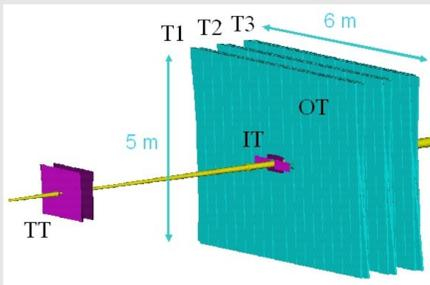

Figure 1: An artist view of the LHCb Outer Tracker
The LHCb Outer Tracker (OT) is a straw tube drift-chamber and consists of 3 stations. Altogether the Outer Tracker made up of 54.000 read out channels. Figure 1 shows an artist view of the OT detector.